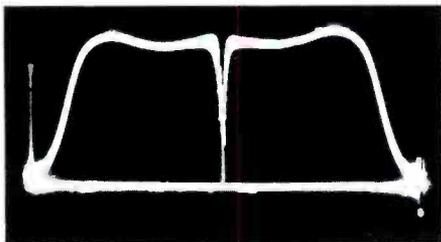
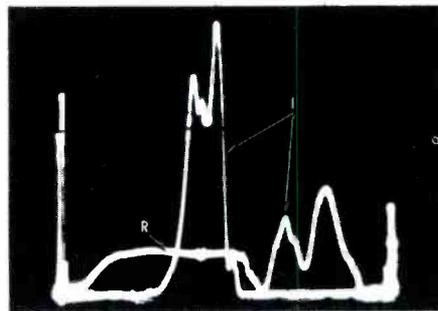

Fig. 2. Response Curve Representing the Output Obtained From Simpson Chromatic Amplifier and Probe When These Are Used With a Simpson Model 480 Genescope.
Fig. 3. Response Curve Showing Interference Pickup Caused by the Use of Long Unshielded Leads to the Chromatic Amplifier.
i. Defective filament-bypass capacitor. (See C8 or C15 in Fig. 2 and C13 or C23 in Fig. 3.)
j. Faulty components or contacts in the grid circuit of the mixer stage. (See C10 or R16 of Fig. 2; also C16, C19, C18, R14, or R15 of Fig. 3.)
d. Decoupling resistors too high in value. (See R13 of Fig. 2 or R9 of Fig. 3.)
e. Capacitors may be leaky. (See C5, C73, or the feed-through capacitor in Fig. 2; or C11 in Fig. 3.)
Fig. 2. The two input signals were obtained from a Simpson Model 480 Genescope. The level of the signal was increased by the chromatic amplifier, and a Simpson peak-to-peak demodulator probe was used to detect the signal before it was applied to the oscilloscope.
The abrupt dip in the center of the response curve of Fig. 2 represents the zero-beat point at which the two oscillators (the FM and RF oscillators) are locked together in frequency. On either side of this point, the curve represents a sweep output. There is a rise in amplitude toward the ends of the curve and a sharp fall in amplitude beyond the 4.5-mc points (not marked on the curve in this example).
Another point which might be made at this time is that the technician will probably not wish to view a double response like that of Fig. 2 at all times. If not, he can move one of the halves of the response curve off the side of the oscilloscope screen by readjusting the tuning controls of one of the generators.
It was stated previously that there is some possibility of pickup of interfering signals if the input leads to the chromatic amplifier are unshielded. The illustration shown in Fig. 3 was taken under extremely bad conditions of interference. The output signals from a Simpson Model 480 Genescope were applied through the bandpass circuits of a color receiver to the chromatic amplifier and from there to the Simpson peak-to-peak high-frequency probe. The detected signal was then displayed on the oscilloscope. The connections between the receiver circuits and the chromatic amplifier were made with unshielded leads about 12 inches long.